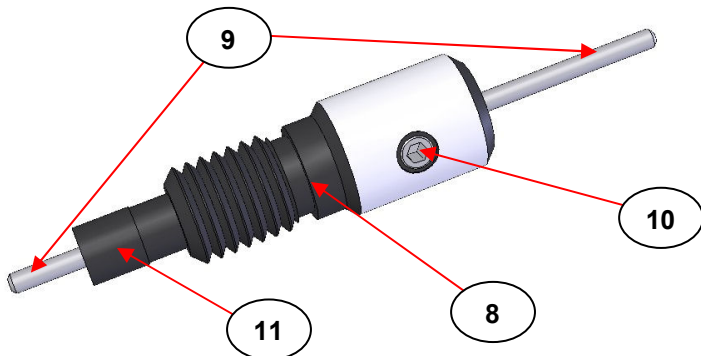

Fig 5. Complete Assembly of Mounting Screw Fitting, Pin Rod, Grub Screw and Silicone Rubber Pad
The pin rod (9) that passes through the mounting screw fitting (8) also passes through a silicone rubber pad (11) underneath the screw fitting (8). (See Fig 5.)